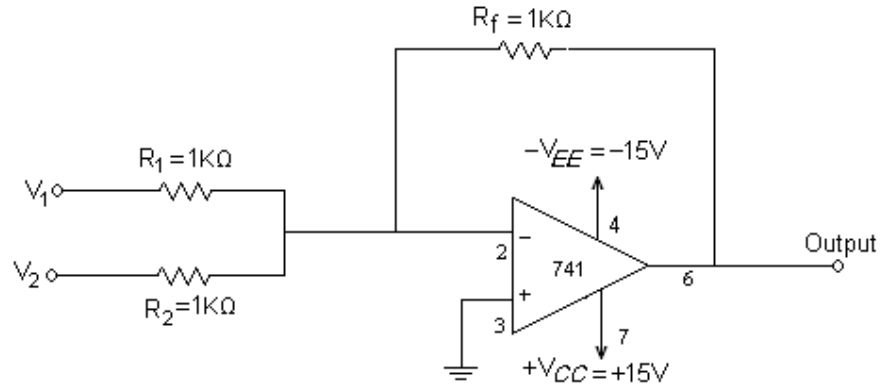

Fig1: Adder
1. Connect the circuit as per the diagram shown in fig 1.
3. Apply the inputs V_1 and V_2 as shown in fig 1.